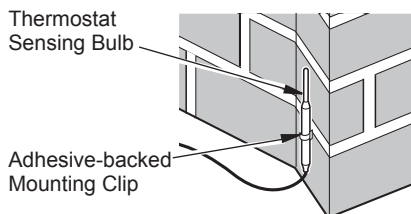
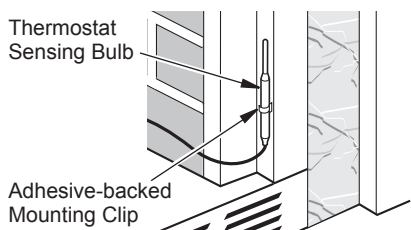
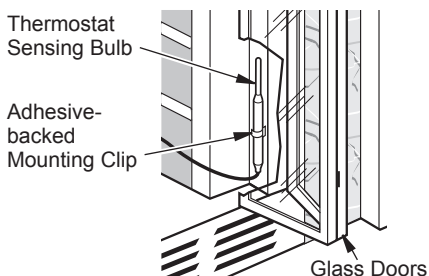

Figure 29 - Locating Thermostat Sensing Bulb on Masonry Fireplace
Figure 30 - Locating Thermostat Sensing Bulb on Factory-built Metal Fireplace
Figure 31 - Installing Thermostat Sensing Bulb behind Glass Doors
3. Thermostat sensing bulb may be located in lower right front side of fireplace. Determine location of sensing bulb, but do not mount sensing bulb until step 4. If you have a masonry fireplace, see Figure 29 for location. If you have a factory-built metal fireplace, see Figure 30 for location. If your fireplace has glass doors, position sensing bulb directly behind door gap on right bottom side (see Figure 31).